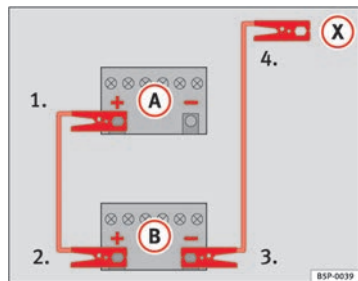

Fig. 230 How to connect the jump leads
⇒ fig. 230 (A) shows the flat battery and (B) the charged battery.
- 1. Connect one end of the red jump lead to the positive ⇒ fig. 230 (+) terminal of the vehicle with the flat battery ⇒ ⚠.
- 4. Connect the other end of the black jump lead (X) to a solid metal component which is bolted on to the engine block, or onto the engine block itself of the vehicle with the flat battery. Do not connect it to a point near the battery ⇒ ⚠.